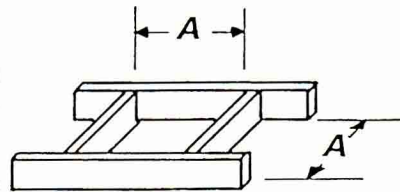

FIGURE 10
2. Cut and frame an opening in the roof to provide 2" clearance between the outside of the chimney and any combustible material. DO NOT FILL THIS SPACE WITH ANY TYPE OF MATERIAL. Nail headers between the joist for extra support. Firestop spacers must be placed on the bottom of each framed opening in any floor or ceiling that the chimney passes through (Figure 10).